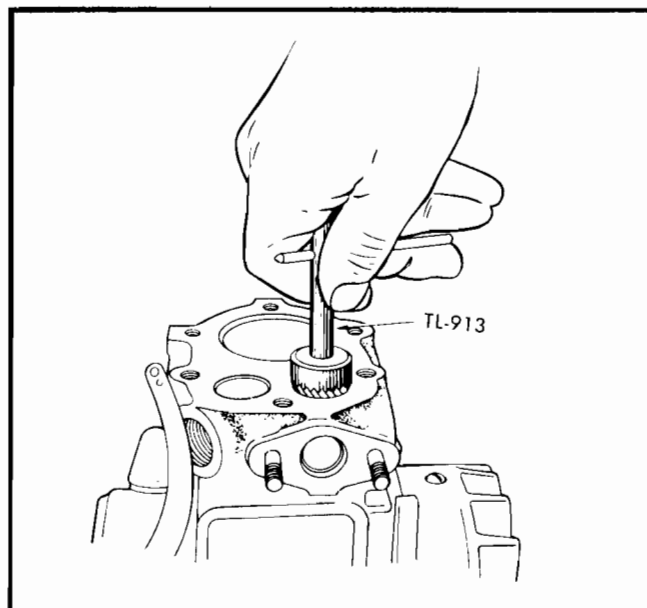

Figure No. 46—Reconditioning Valve Seat
- a. Inspect valve seats for extreme wear. The seats should be approximately 1/32 inch in width and under no circumstances more than 1/16 in width. In many cases badly worn seats can be restored by reconditioning with Valve Seat Cutter, TL-913. (See Figure No. 46.) If the seat width exceeds 1/16 after using this 45°